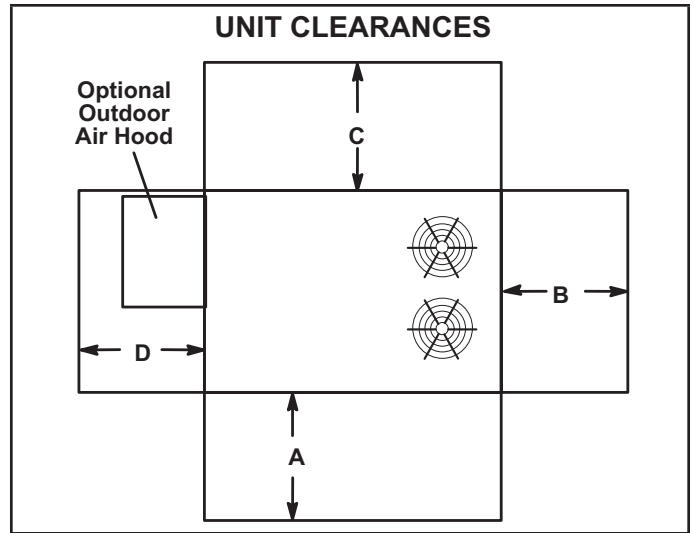

FIGURE 1
The KHC unit is ETL/CSA certified for outdoor installations only at the clearances to combustible materials listed on unit nameplate and in FIGURE 1.
The KHC unit is ETL/CSA certified as a heat pump with cooling and with or without auxiliary electric heat for non-residential use only at the clearances to combustible materials as listed on the unit nameplate and in FIGURE 1.
- 2 - Specified installation clearances must be maintained when installing units. Refer to FIGURE 1.